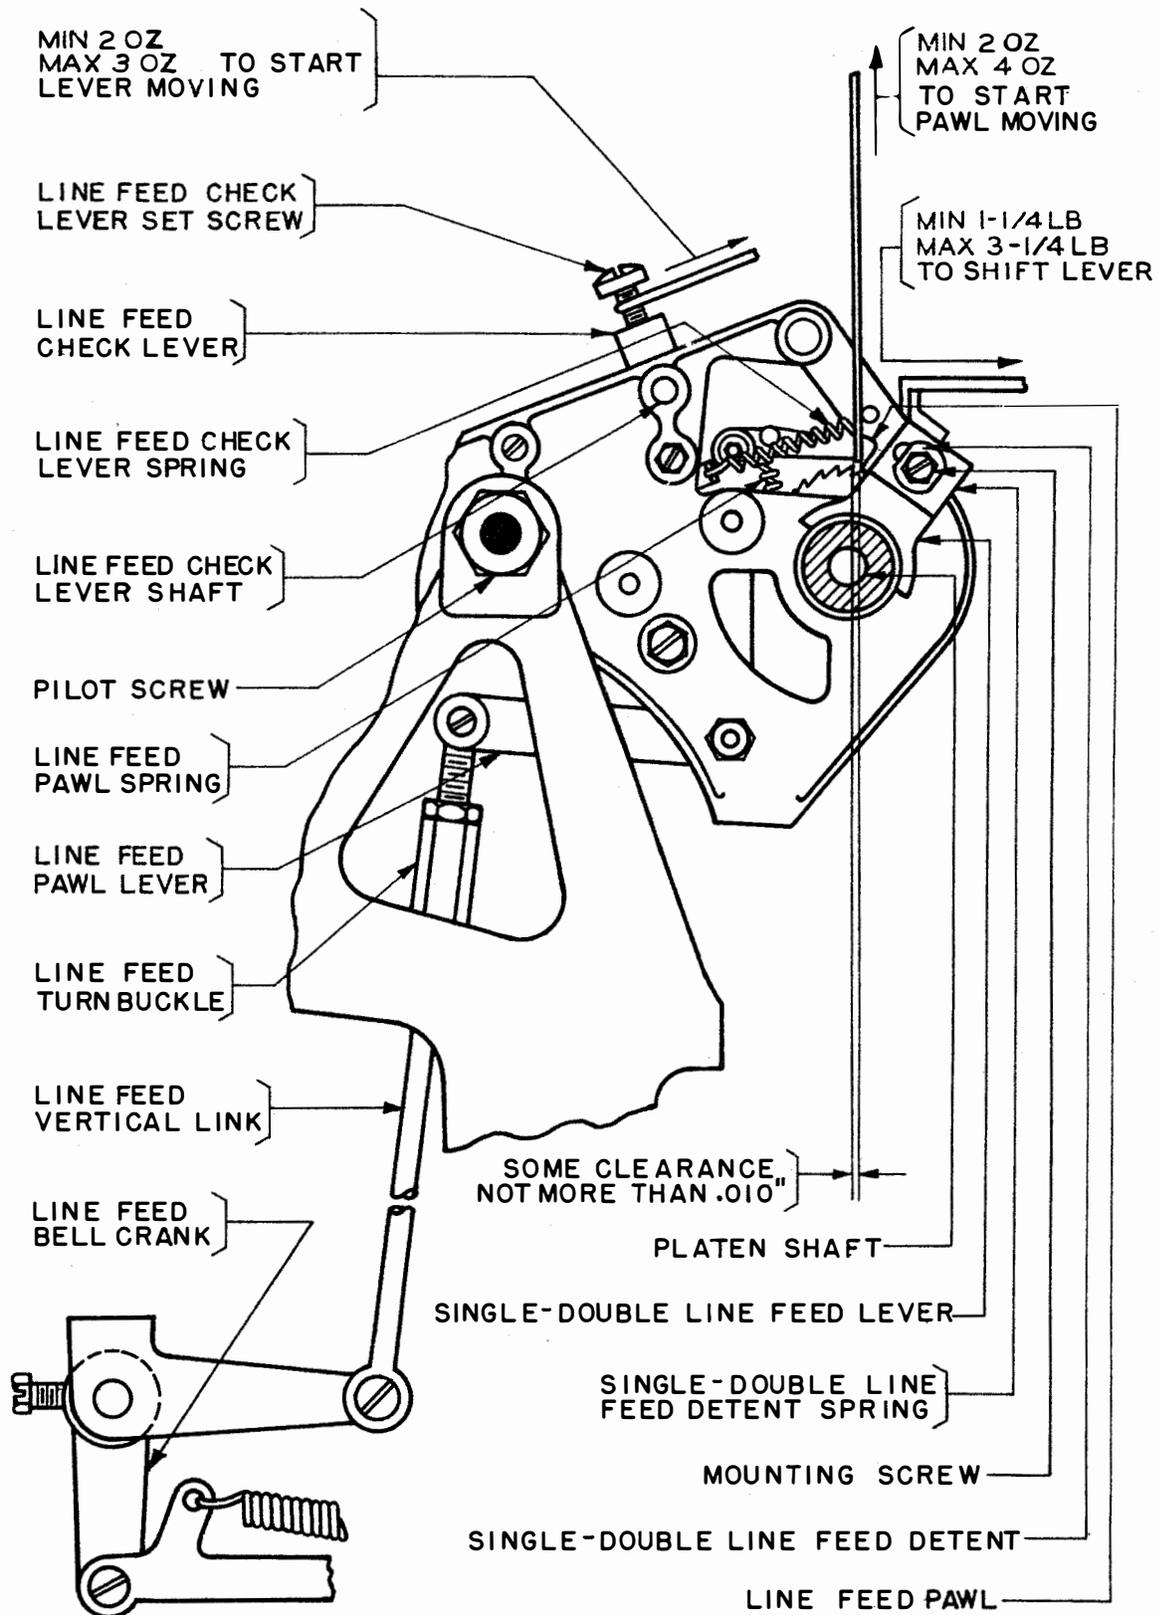

Figure 35
- 2.66 Single-double Line-feed Detent should travel an equal distance on either side of detent-spring hump, gauged by eye, when the detent lever is shifted from the single to the double line-feed position. See Figure 35.
- 2.67 Single-double Line-feed Detent Spring should exert a pressure of minimum 1-1/4 pounds, maximum 3-1/4 pounds. See Figure 35.
- 2.68 Line-feed Pawl should just clear the edge of a ratchet tooth when the single-double line-feed lever is in single line-feed position, the line-feed detent roller is in the hollow between two ratchet teeth and the line-feed bell-crank is operated manually. See Figure 35.
To Adjust: Reposition the line-feed link turnbuckle. See Figure 35.
- 2.72 Line-feed Pawl Spring should have a tension of minimum 2 ounces, maximum 4 ounces when the single-double line feed lever is in the double line-feed position and the line-feed pawl is in the unoperated position. See Figure 35.
2.76 Line-feed Check-lever Spring should have a tension of minimum 2 ounces, maximum 3 ounces. See Figure 35.